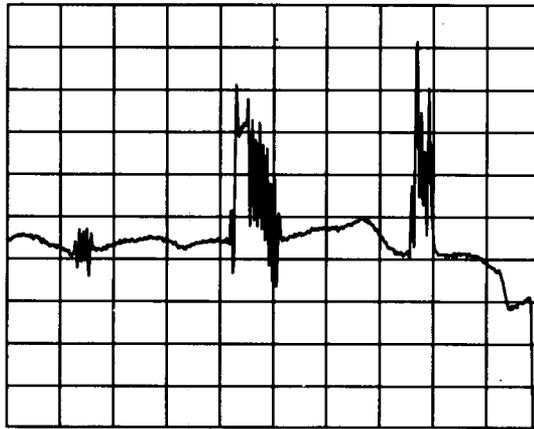

Figure 5-58. Oscilloscope Display with Squegging Present
20. Using the DUT's front panel rotary knob (RPG), vary the ALC level from -20 dBm to $+20$ dBm. Look for squegging as shown in Figure 5-58. As the power level is increased, you will need to decrease the vertical sensitivity (CHAN A) and adjust the vertical positions on the oscilloscope. If any squegging occurs, examine the ENTRY DISPLAY to determine the requested ALC level. If the ALC level is at or below the maximum specified leveled power, adjust A22R50 (C) counter-clockwise to eliminate the squegging. If the ALC level is above maximum leveled power, what you are seeing is probably the RF output going unlevelled and cannot be adjusted out.
Squegging on the oscilloscope display may appear as shown in Figure 5-58 (power spikes and oscillations) or it may appear as power spikes without the oscillations. In either case the appropriate adjustment should be made to eliminate the squegging.